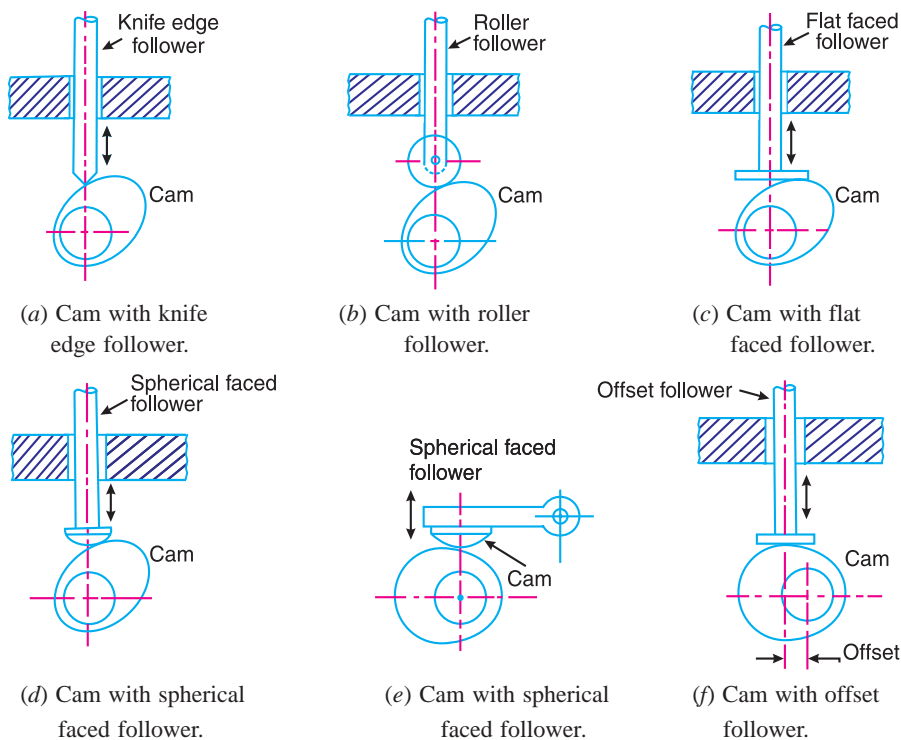

Fig. 20.1. Classification of followers.
- (a) **Knife edge follower.** When the contacting end of the follower has a sharp knife edge, it is called a knife edge follower, as shown in Fig. 20.1 (a). The sliding motion takes place between the contacting surfaces (*i.e.* the knife edge and the cam surface). It is seldom used in practice because the small area of contacting surface results in excessive wear. In knife edge followers, a considerable side thrust exists between the follower and the guide.
(b) **Roller follower.** When the contacting end of the follower is a roller, it is called a roller follower, as shown in Fig. 20.1 (b). Since the rolling motion takes place between the contacting surfaces (*i.e.* the roller and the cam), therefore the rate of wear is greatly reduced. In roller followers also the side thrust exists between the follower and the guide. The roller followers are extensively used where more space is available such as in stationary gas and oil engines and aircraft engines.
(c) **Flat faced or mushroom follower.** When the contacting end of the follower is a perfectly flat face, it is called a flat-faced follower, as shown in Fig. 20.1 (c). It may be noted that the side thrust between the follower and the guide is much reduced in case of flat faced followers. The only side thrust is due to friction between the contact surfaces of the follower and the cam. The relative motion between these surfaces is largely of sliding nature but wear may be reduced by off-setting the axis of the follower, as shown in Fig. 20.1 (f) so that when the cam rotates, the follower also rotates about its own axis. The flat faced followers are generally used where space is limited such as in cams which operate the valves of automobile engines.
(d) **Spherical faced follower.** When the contacting end of the follower is of spherical shape, it is called a spherical faced follower, as shown in Fig. 20.1 (d). It may be noted that when a flat-faced follower is used in automobile engines, high surface stresses are produced. In order to minimise these stresses, the flat end of the follower is machined to a spherical shape.
(a) **Reciprocating or translating follower.** When the follower reciprocates in guides as the cam rotates uniformly, it is known as reciprocating or translating follower. The followers as shown in Fig. 20.1 (a) to (d) are all reciprocating or translating followers.
(b) **Oscillating or rotating follower.** When the uniform rotary motion of the cam is converted into predetermined oscillatory motion of the follower, it is called oscillating or rotating follower. The follower, as shown in Fig. 20.1 (e), is an oscillating or rotating follower.
(a) **Radial follower.** When the motion of the follower is along an axis passing through the centre of the cam, it is known as radial follower. The followers, as shown in Fig. 20.1 (a) to (e), are all radial followers.
(b) **Off-set follower.** When the motion of the follower is along an axis away from the axis of the cam centre, it is called off-set follower. The follower, as shown in Fig. 20.1 (f), is an off-set follower.
1. Radial or disc cam. In radial cams, the follower reciprocates or oscillates in a direction perpendicular to the cam axis. The cams as shown in Fig. 20.1 are all radial cams.